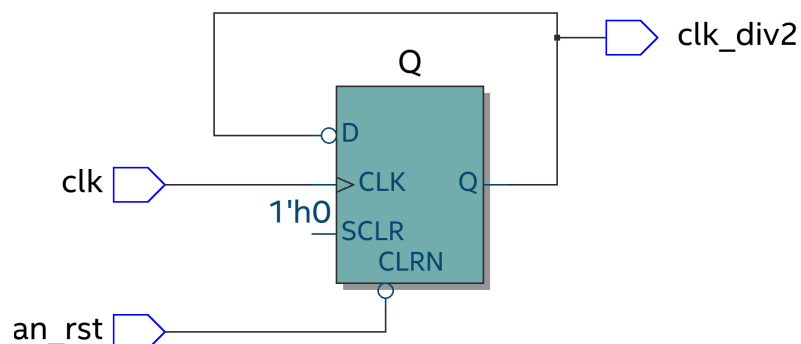

Figure 27: RTL view.
13. You should see something similar to Figure 27. Here, Figure 27 shows how Quartus logically interprets our SystemVerilog design.